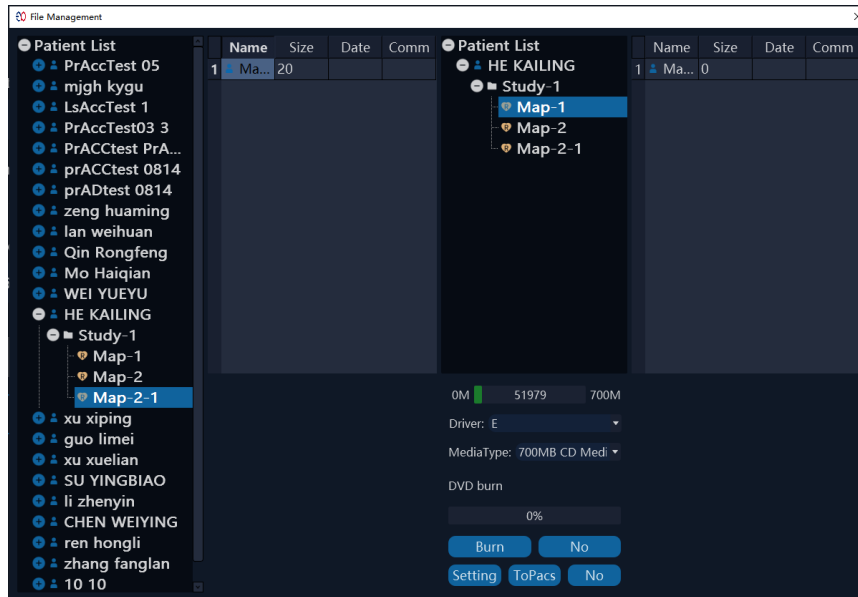

Figure 12-1 Case Management Window.
You can enter the Case Management window (Figure 12-1) by clicking the drop-down arrow to the
2. Open the case management window, as shown in Figure 12-1. All patient files stored on the CD are displayed in the CD directory list on the right.
1. Open the case management window, as shown in Figure 12-1. All case files stored on the workstation hard disk are displayed in the patient list in the leftmost local hard disk directory.